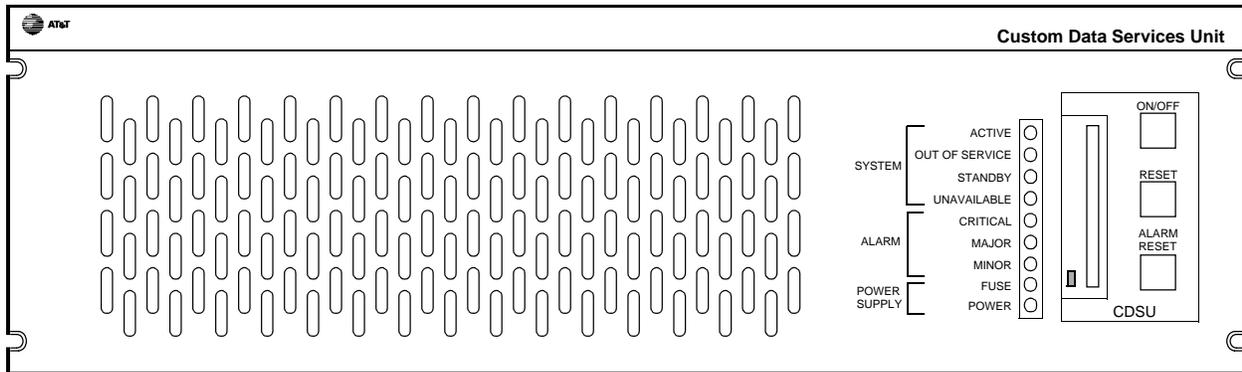

Figure 12. CDSU-I (Front View)
- Custom Data Service Unit (CDSU-I) (Front View) (Figure 12)